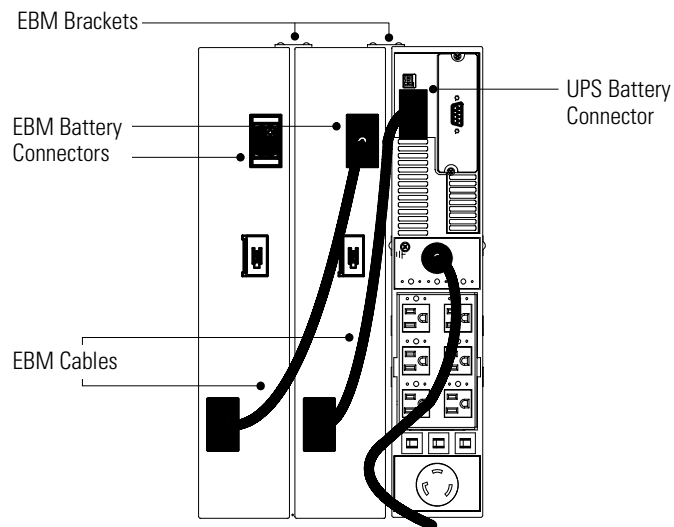

Figure 27. EBM Connections
8. Plug the new EBM into the UPS as shown in Figure 27. Plug the other end of the EBM cable into the EBM battery connector.